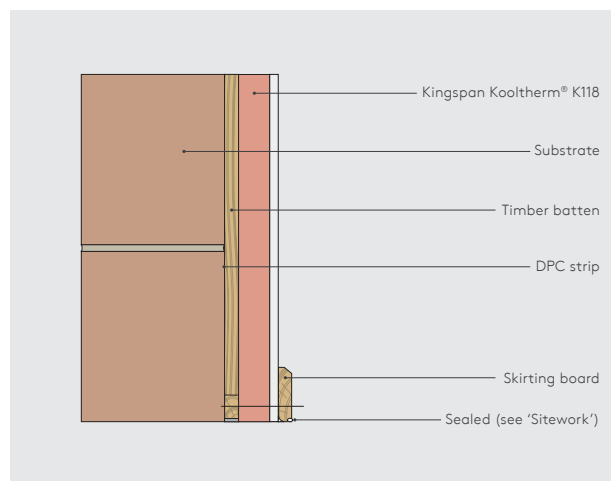

Figure 11 - Packer and Skirting Detail
- The packer should be replaced with a flexible / sealant or equivalent (for 5 mm gaps), or with a combination of flexible polyurethane foam and flexible sealant or equivalent (for 15 mm gaps) (see Figure 11).